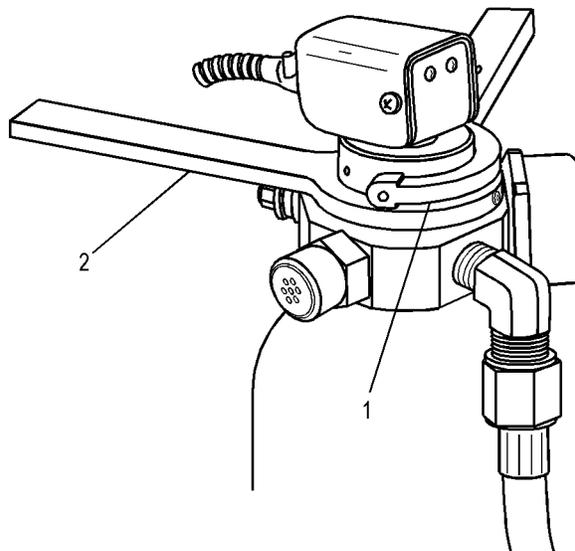

Figure 8A-8. Post Assembly Adjustment of Pressure Reducer Assembly
5. Actuate manual release assembly (12, figure 8A-4). Observe nitrogen input pressure gage (27) on test stand to ensure that pressure indication is 45 to 80 psig. If the nitrogen input pressure gage does not indicate 45 to 85 psig, perform steps a thru d below.
Index numbers in parentheses for steps a through d refer to figure 8A-8 unless otherwise noted.
a. If indicated pressure is below 45 psig, use spanner wrench P/N 2000AS360-1 (1) to stabilize pressure reducer assembly (2, figure 8A-9), and, using a second spanner wrench P/N 2000AS360-1 (2), turn the lock ring bottom assembly clockwise to loosen it.
b. Remove spanner wrench (2) on lock ring. To increase pressure, turn spanner wrench (1) clockwise until 70 psig is indicated on the test stand nitrogen input pressure gage (27). Upon completion of adjustment, tighten lock ring against upper assembly with spanner wrench (2).
c. If indicated pressure is above 80 psig, use spanner wrench P/N 2000AS360-1 (1) to stabilize pressure reducer assembly (2, figure 8A-9), and, using a second spanner wrench P/N 2000AS360-1 (2), turn the lock ring bottom assembly clockwise to loosen it.
d. Remove spanner wrench on lock ring bottom assembly. To decrease pressure, turn spanner wrench (1) counterclockwise until 70 psig is indicated on the test stand nitrogen input pressure gage (27). Repeat as necessary. Upon completion of adjustment, tighten lock ring against upper assembly with spanner wrench (2).
6. Open vent pressure valve (H) on test stand until 100 lpm flow is indicated on vent flow manometer (3). Nitrogen input pressure gage shall indicate 45 to 80 psig. If the nitrogen input pressure gage does not indicate 45 to 80 psig, perform step 5a or 5d above, as necessary.
7. Vent pressure regulator until regulated nitrogen supply source to pressure reducer assembly (1) is 250 psig.
8. With 100 lpm flow still indicated on test stand vent flow manometer (3), nitrogen input pressure gage (27) shall indicate 45 to 80 psig. If the input pressure gage does not indicate 45 to 80 psig, perform step 5a or 5d, above as necessary.
9. Close test stand vent pressure valve (H). Nitrogen input pressure gage (27) shall indicate 45 to 80 psig. If 45 to 80 psig is not indicated perform steps 5a thru 5d, as necessary.
10. Secure regulated nitrogen supply source to pressure reducer assembly (1). Open system bleed valve(s) and bleed pressure from the test stand.
11. Secure all test stand valves and disconnect pressure reducer assembly (1) from regulated nitrogen supply source and test stand.